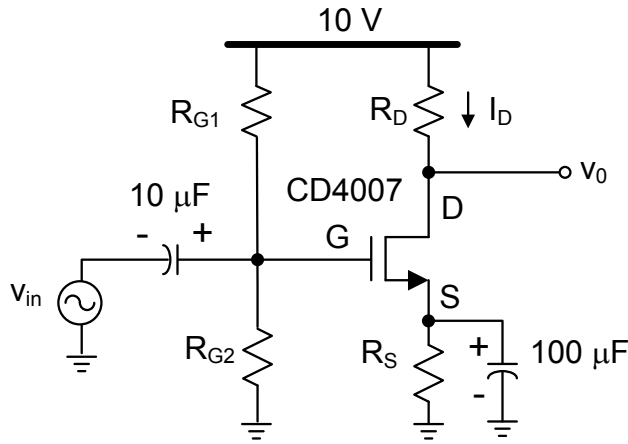

Fig. 3. Common-source configuration
5. Find the value of the resistors for the circuit shown in Fig. 3 (use the CD4007) so that the magnitude of the small signal voltage gain is 20 dB and  $I_D = 0.5 \text{ mA}$ . Make sure the transistor operates in the saturation region. Select the values of  $R_{G1}$  and  $R_{G2}$  so that  $R_{G1} || R_{G2} > 100 \text{ k}\Omega$ . Check the operating point of your design and verify that the voltage gain is approximately given by  $-g_m R_D$ . Compute the values for the input impedance and output impedance.
6. Construct the circuit in Fig. 3 in PSpice and compare the simulated results and calculations. Explain any differences.
7. Plot the frequency response of the circuit shown in Fig. 3, and find the low and high frequency poles.
5. Construct the circuit shown in Fig. 3. Use the resistor values computed in the pre-lab. Verify the component values using PSpice.